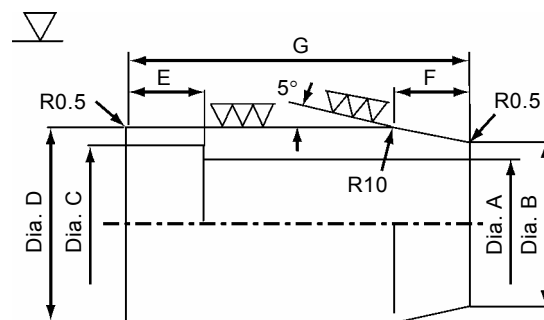

Figure 9: Special Tool for Press Fitting of Rod Cover
8. Special tool for press fitting of rod cover (15): Refer to figure 9 + table 8